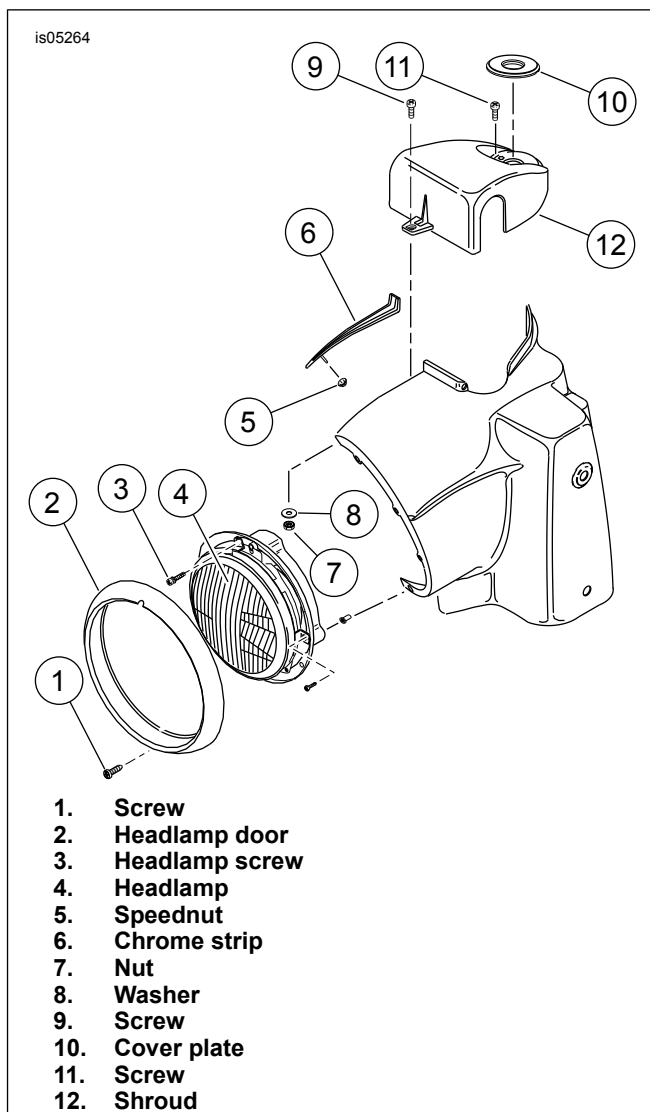

Figure 1. Nacelle and Handlebar Shroud Parts
3. See Figure 1. Remove screw (1), headlamp door (chrome ring) (2), and headlamp screws (3). Retain screws.
4. Separate electrical connector and remove headlamp assembly (4).
- Remove speednut (5) that holds chrome trim strip (6) in place and remove trim.
- Carefully pry off fork lock plate (10) on top of nacelle handlebar shroud to access screws that hold cover in place.
- Under plate, remove two screws (11) that hold shroud to fork lock.
- Remove nut (7) that secures the handlebar shroud (12) and remove shroud, screw (9), and fender washer (8)